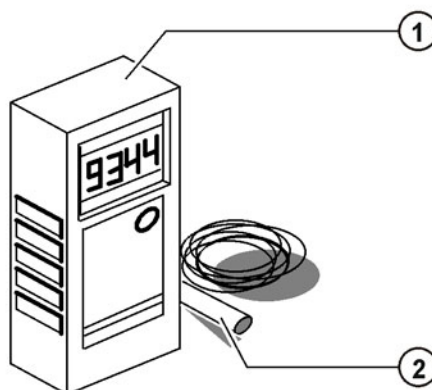

Fig. 10-3: Belt tension measuring device
5. Switch on the belt tension measuring device (>>> Fig. 10-3).